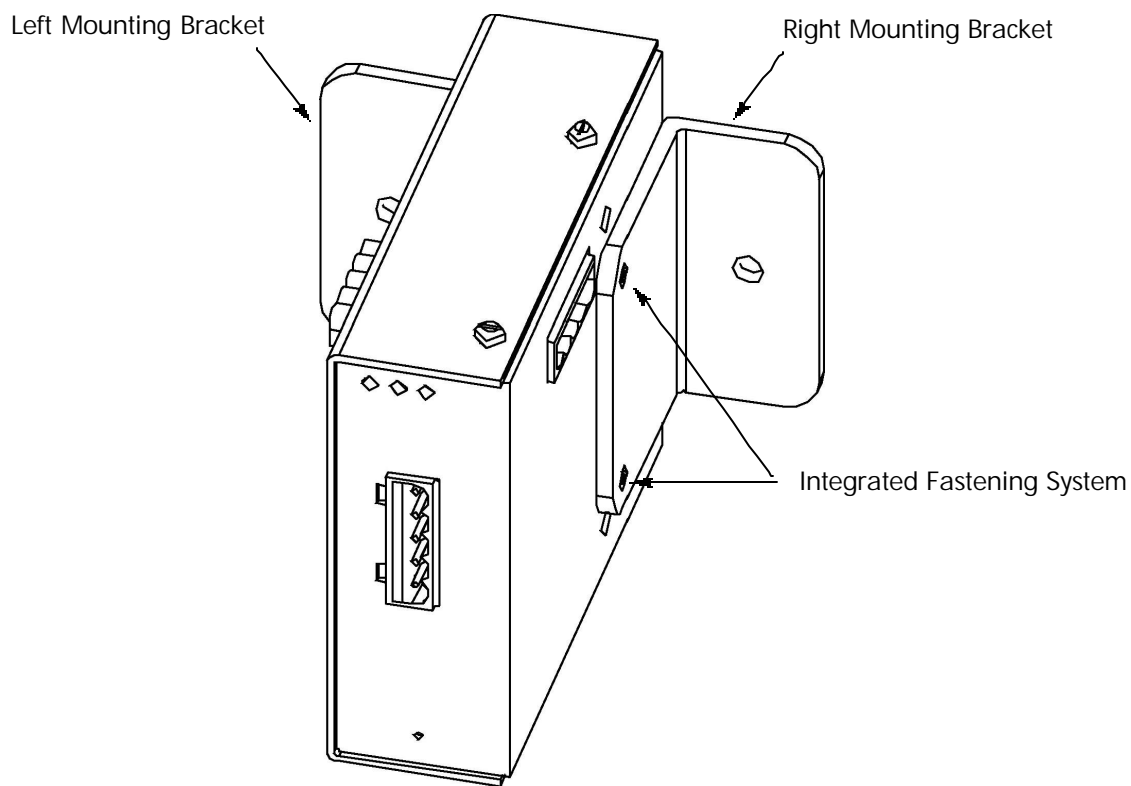

Figure 2.7: Integrated Fastening System
- Next, slide the female RS-485 port into the male RS-485 side port to connect the next I/O module to the left module. **Fasten together enough to grab but do not tighten.** One by one combine the modules together using the **Integrated Fastening System (Figure 2.7)**. If you require an additional power supply, attach a **PSIO** (power supply) to the right of each group of **4 I/O Modules** (section 2.2.3).